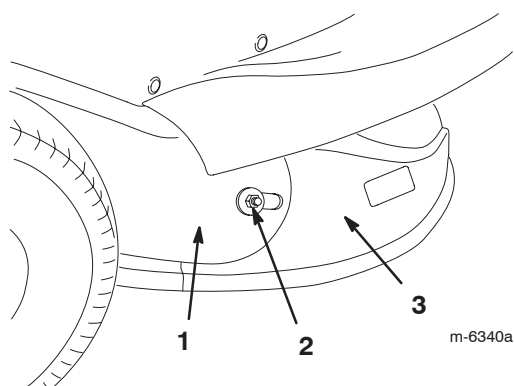

Figure 14
7. Remove the nut and outer washer that secure the discharge chute to the discharge tube (Fig. 14).
13. Install the nut and outer washer that secure the discharge chute to the discharge tube (Fig. 14).